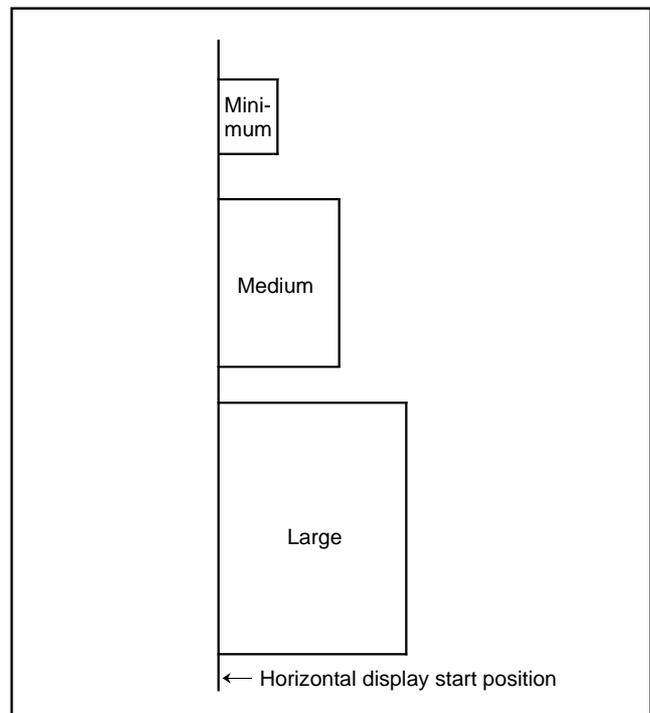

Fig. 39. Display start position of each character size (horizontal direction)
**Note:** The display start position in the horizontal direction is not affected by the character size. In other words, the horizontal display start position is common to all blocks even when the character size varies with each block (refer to Figure 39).
**(4) Memory for Display**